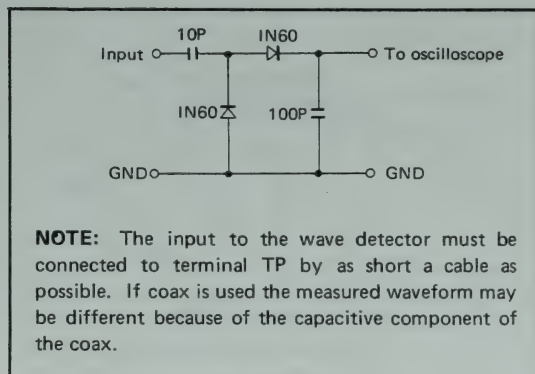

Figure 15. B.P.F. Wave Detector
**TEST EQUIPMENT:** A sweep signal generator (require frequencies at 8.295, 8.595, and 8.895 MHz), a B.P.F. wave detector (as shown in Figure 15), and an oscilloscope.